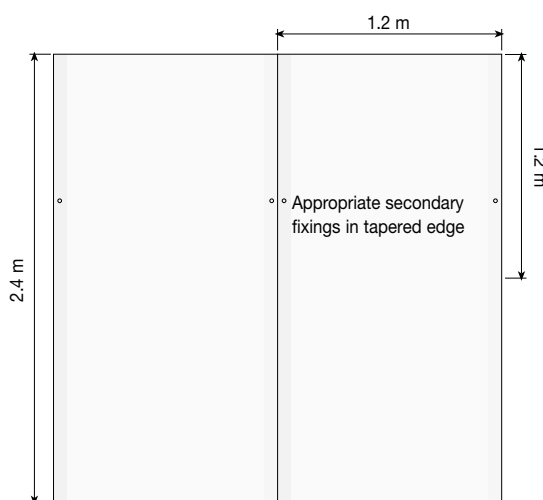

Figure 6 – Appropriate secondary fixing pattern
- Appropriate secondary fixings i.e. nailable plugs or equivalent, are recommended to back up the drywall adhesive dab bond. These are normally applied at a rate of 2 No. per sheet when conventional finishing is applied (plaster skim or tape, filled and painted), after the gypsum based drywall adhesive dabs have set (see Figure 6). Gypsum based drywall adhesive generally sets within 1.5 to 3 hours, following the manufacturer's guidelines.
- Appropriate secondary fixings, i.e. nailable plugs, are recommended to back up the acrylic / low expansion PU foam adhesive bond. These are normally applied at a rate of 2 No. per sheet, when conventional finishing is applied (plaster skim or tape, filled and painted) after the proprietary acrylic or low expansion PU foam adhesive have set (see Figure 6). These types of adhesives set within five minutes to an hour, following the manufacturer's guidelines.